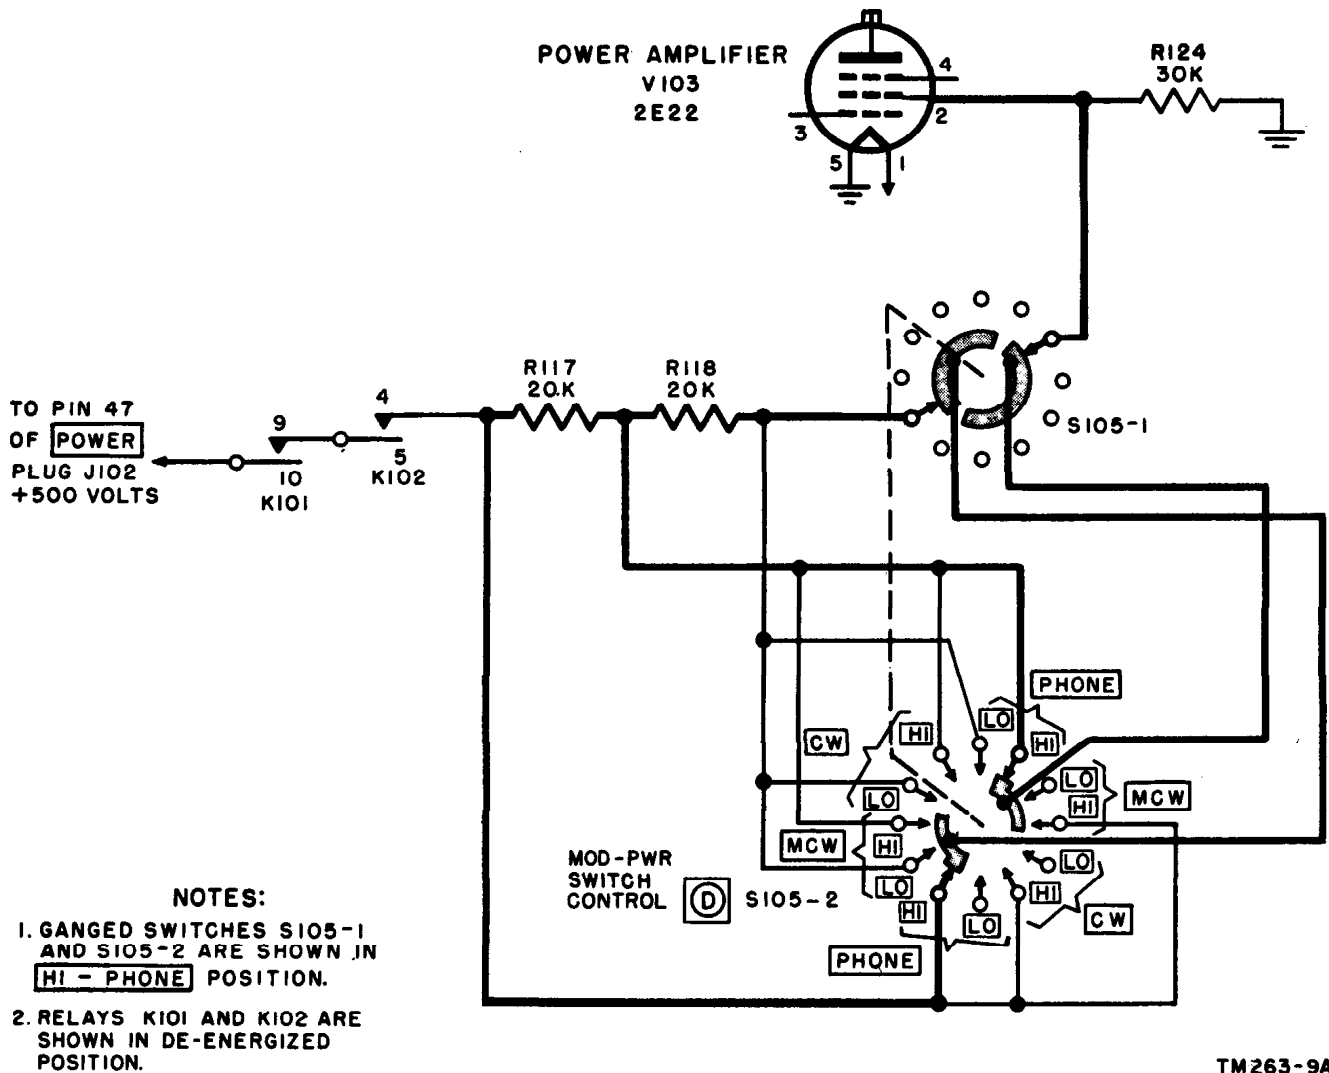

Figure 79. HI power position of control (D), simplified schematic diagram.
b. *HI Power Position* (fig. 79). If the weighted line in the figure is followed from the screen grid, it will be seen that the screen current passes through the parallel combination of R117 and R118. There is less voltage drop across the parallel combination; thus, more voltage is placed on the screen grid.